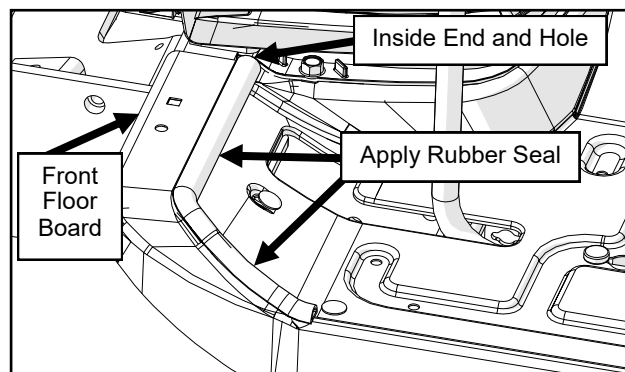

Fig. 3.1 (Apply Rubber to Floor Board)
- 3.1 Apply arch PSA rubber to the left floor board. The rubber should be about 2" from the front of the floor board on the angled edge, not the flat surface with the mounting holes. Ensure that the inside end of the rubber goes all the way to the edge of the floor board, stopping at the drainage hole. Continue to follow the angled surface around the side as shown. See Figure 3.1.